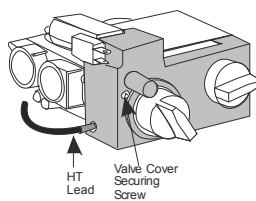

Figure 73
3. Remove the valve cover securing screw (see **Figure 73**).